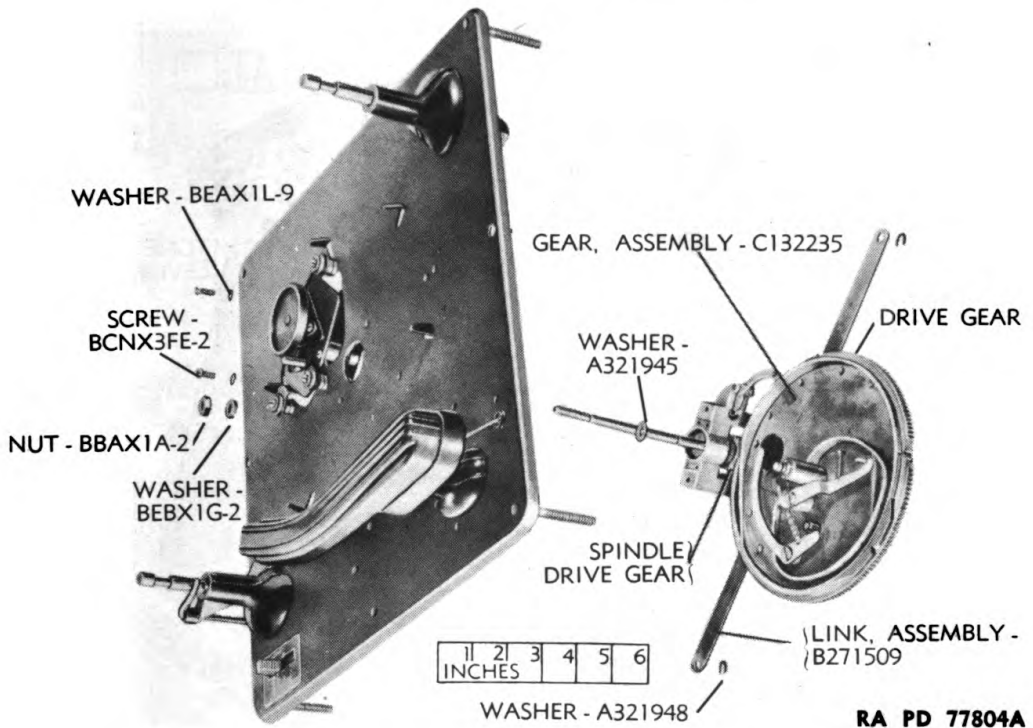

Figure 60 — Record Changer — Gear Assembly Removed
(7) Remove the U-shaped washers, the two screws, and the hexagonal nut and washer to remove the gear assembly and related parts as shown in figure 60. Do not misplace the washer A321945.